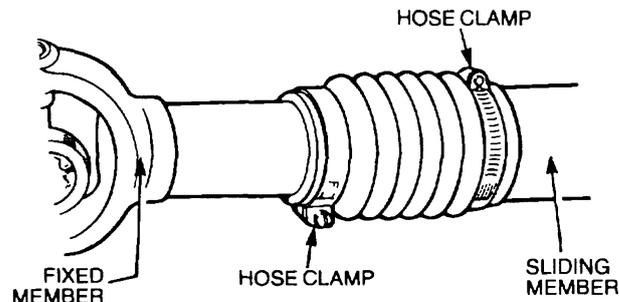

Figure 82 Hose Clamp Positions
- j. Move the sliding member to the centre of travel and tighten both hose clamps ensuring they are positioned at 180 degrees to each other (Figure 82).